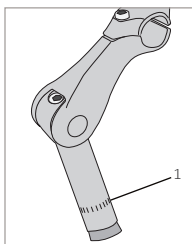

FIGURE 3.5
3. Adjust the handlebar to the necessary height, but the minimum-insertion mark must be in the frame (Figure 3.5).
⚠ WARNING: A quill stem that is too high can cause damage to your bicycle, decrease your control, and cause you to fall. Make sure the minimum-insertion mark (Figure 3.5) is in the frame.